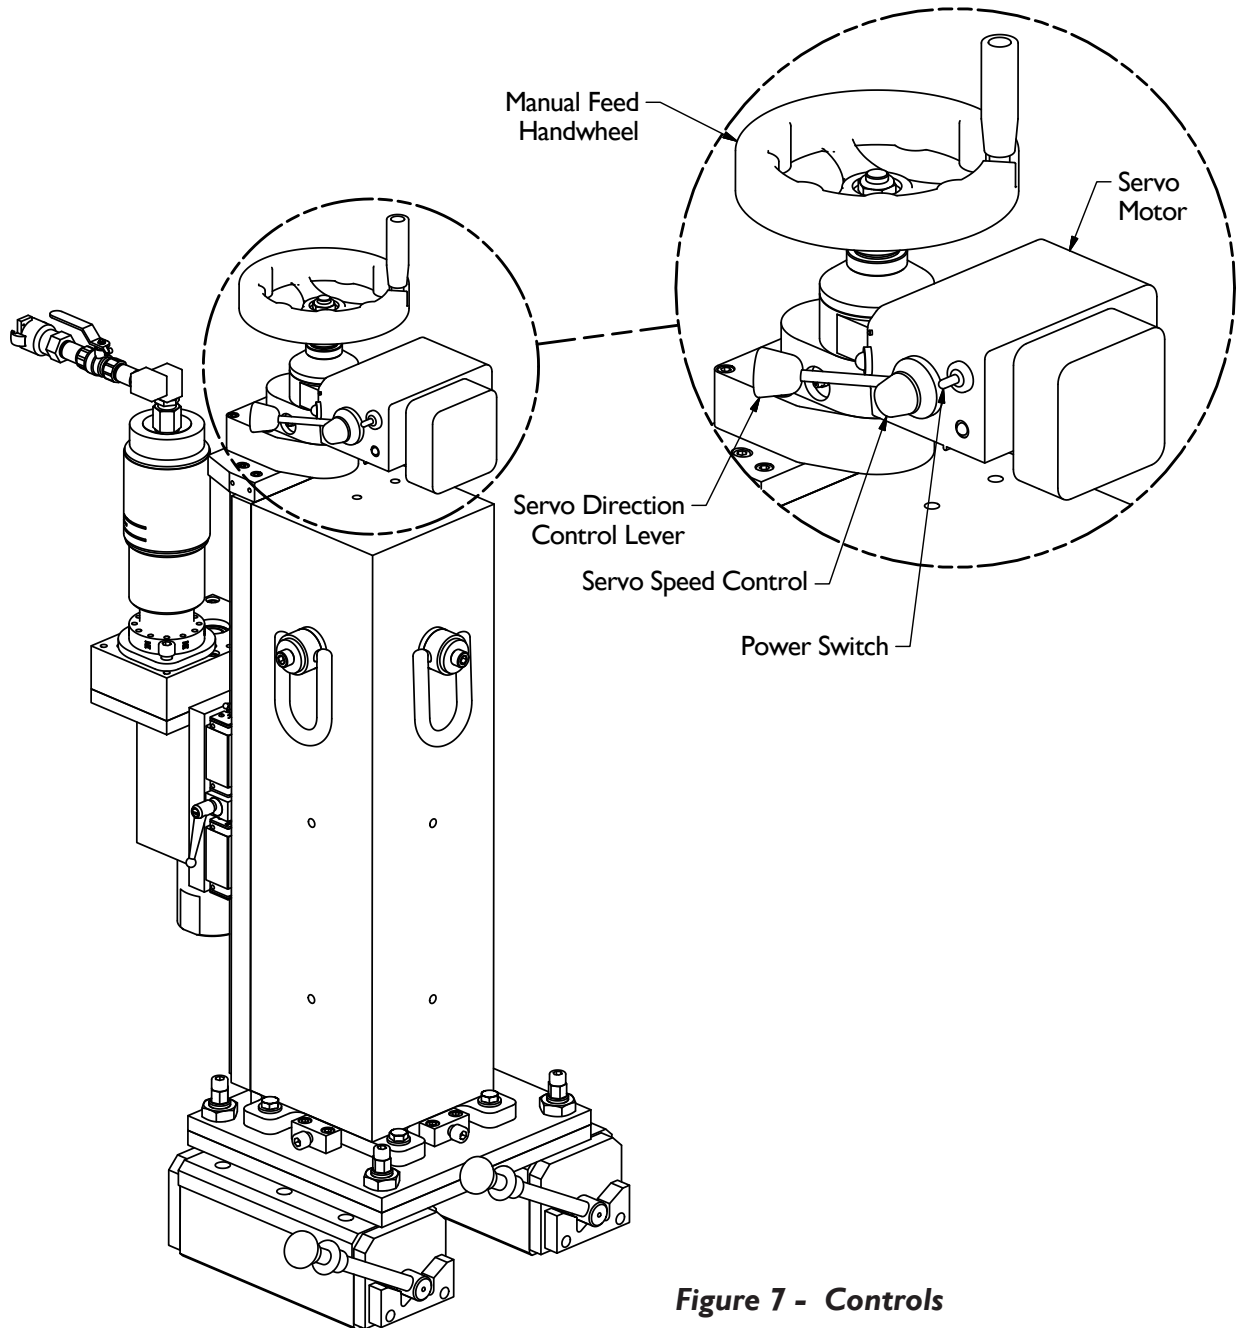

Figure 7 - Controls
2. Start the air or hydraulic power. Switch on the servo motor power. Open the hydraulic or air control valve to the spindle motor. Use the servo feed to slowly lower the cutter into the workpiece. Use the servo speed control dial to adjust the mill head travel speed. The manual feed handwheel may be used in place of the servo feed. Place the control lever in the 'stop' position when using the handwheel. See Figure 7.